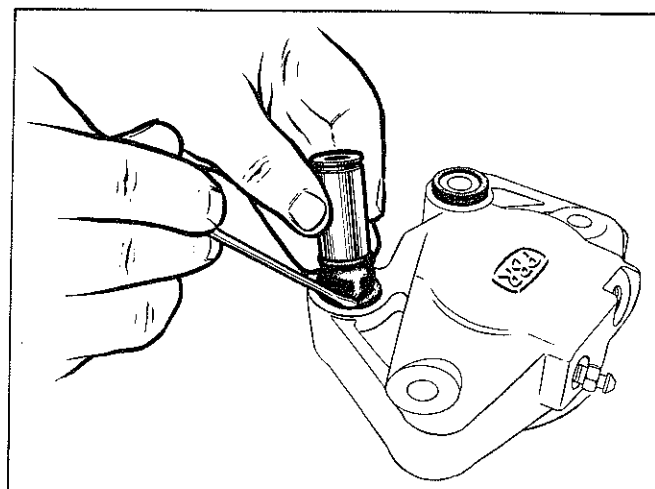

Fig. 10—Installing dust boot to sleeve hole.
- (9) With the boot fitted to the sleeve, locate the boot into the sleeve hole groove using a blunt tool, Refer Fig. 10.